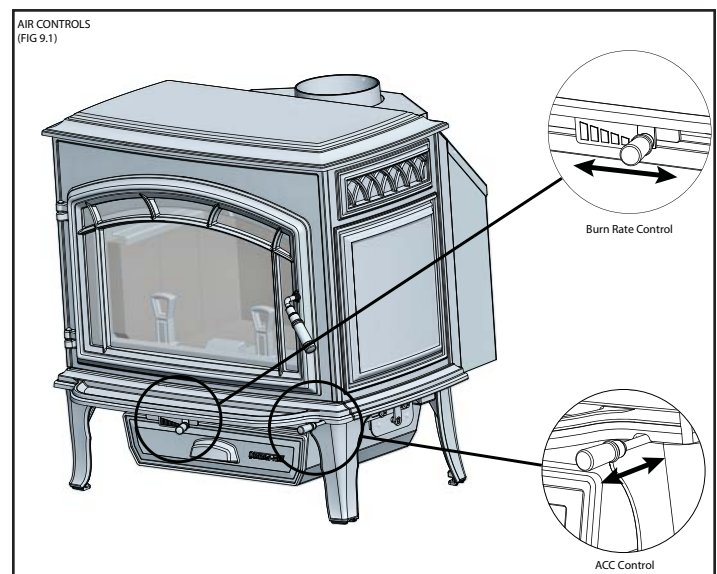

Figure 9.1
to go out. This will ensure the cleanest possible fire. If the flames tend to go out, it is set too low for your burning conditions. The air control located at the upper right hand corner is used to adjust for burn rates. This is called the Burn Rate Air Control. **Figure 9.1**
This air supply enters at the upper front of the firebox, near the top of the glass door. This preheated air supplies the necessary fresh oxygen to mix with the unburned gases, helping to create second, third and fourth combustions. This air is regulated by the Burn Rate Air Control. There are four settings High, Medium-High, Medium-Low and Low. When the control is moved all the way to the left it is on the High setting and when moved all the way to the right it is on the Low setting. **Figure 9.1**
channel gradually shuts down until it is completely closed at the end of the 25 minutes. The fire is now controlled by the air supplied by the Burn Rate Air Control. This function should be performed each time you reload the stove. **Figure 9.1**
1. This appliance has a timer system (ACC) that operates the stove at its maximum efficiency removing any guess work for the homeowner. Follow the instructions below for each burn rate for the Start-Up Air Control and Burn Rate Air Control. **Figure 9.1**